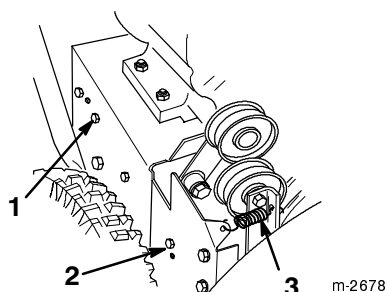

Figure 16
3. Loosen the auger brake arm assembly by loosening the rear screw and removing the front screw (Fig. 16).
4. Remove the idler pulley spring (Fig. 16). Let the brake arm assembly hang free but out of the way.